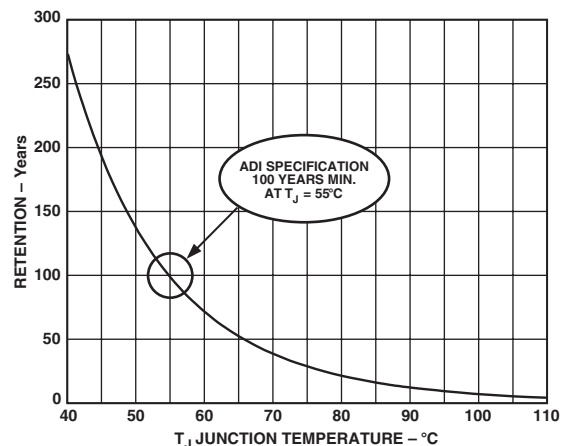

Figure 16. Flash/EE Memory Data Retention
*Retention* quantifies the ability of the Flash/EE memory to retain its programmed data over time. Again, the ADuC834 has been qualified in accordance with the formal JEDEC Retention Lifetime Specification (A117) at a specific junction temperature ( $T_J = 55^{\circ}\text{C}$ ). As part of this qualification procedure, the Flash/EE memory is cycled to its specified endurance limit described above, before data retention is characterized. This means that the Flash/EE memory is guaranteed to retain its data for its full specified retention lifetime every time the Flash/EE memory is reprogrammed. It should also be noted that retention lifetime, based on an activation energy of 0.6 eV, will derate with  $T_J$  as shown in Figure 16.